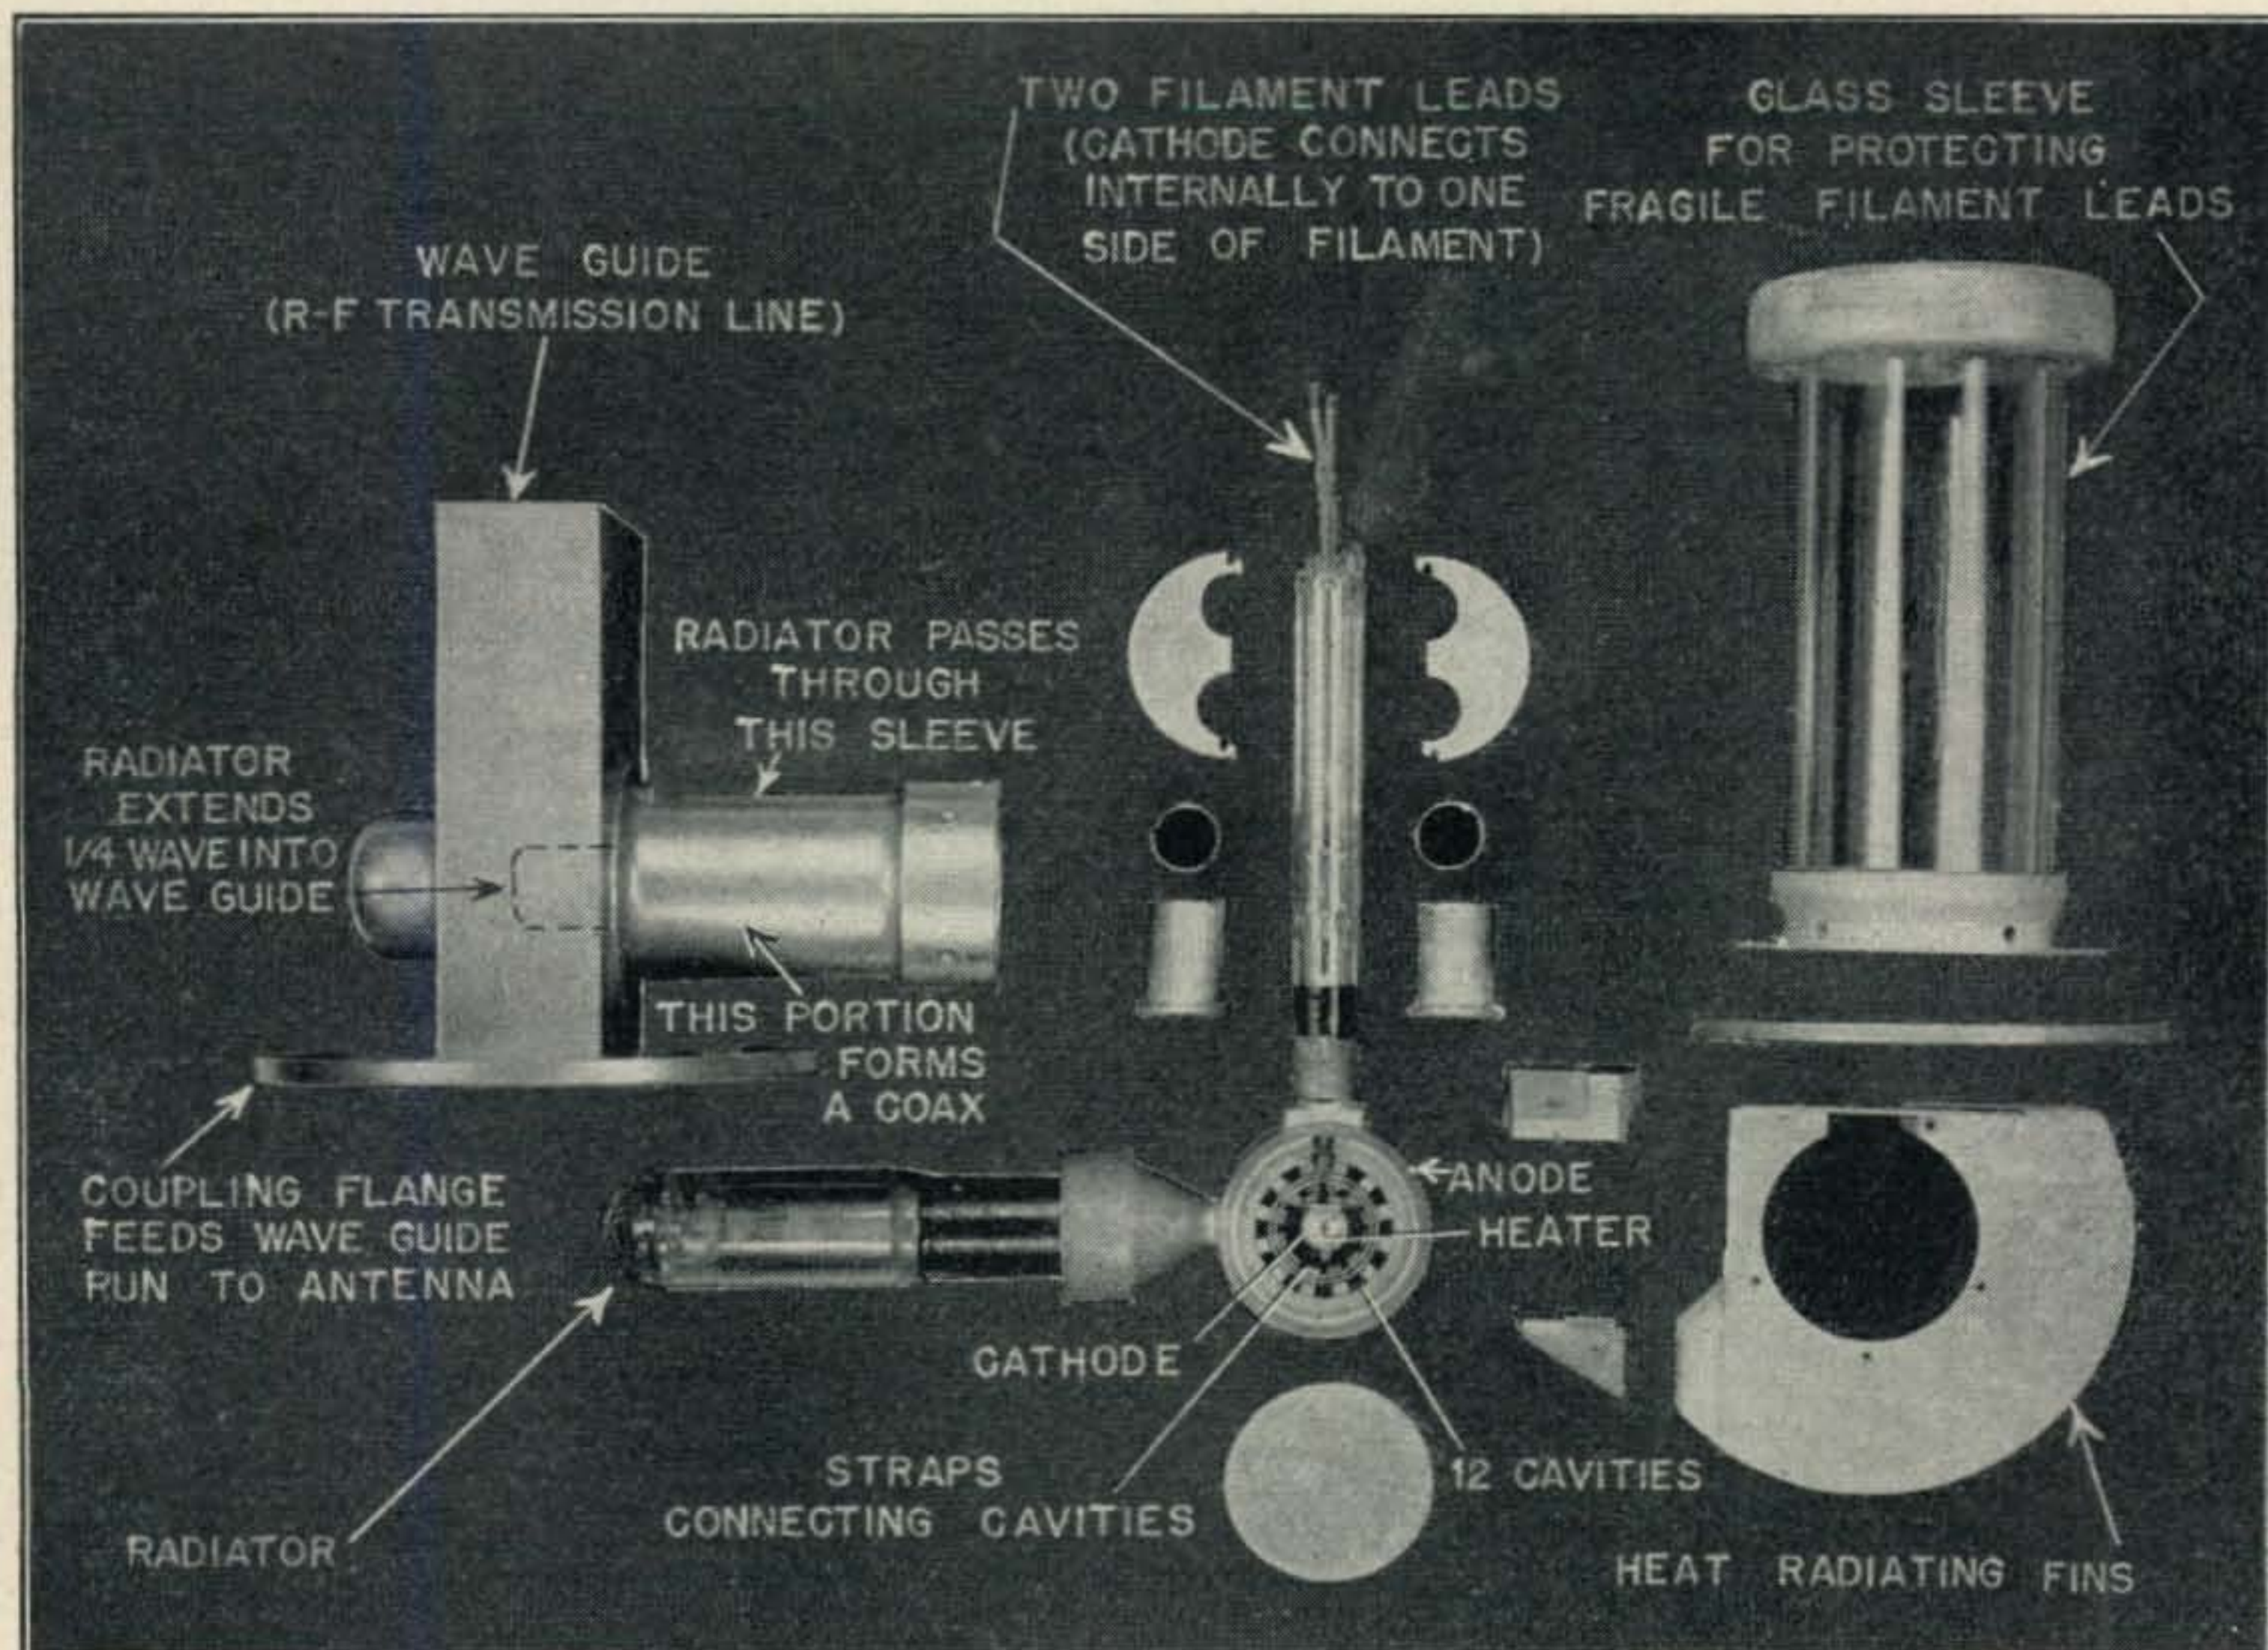

Fig. 1. "Blow up" of a fixed-frequency, 12-cavity, high-power magnetron oscillator
3. Two types are manufactured—one for radar (*Fig. 1*), operating around 16,000 volts with outputs up to 1 megawatt (1,000,000 watts), and a c.w. design, for c.w. and phone, with powers from 2 watts to 5 kw. One particular type, operating around 1,500 volts with an output of 70 watts, can be beamed with a step-up of 20 db to an equivalent antenna power of 1,155 watts.